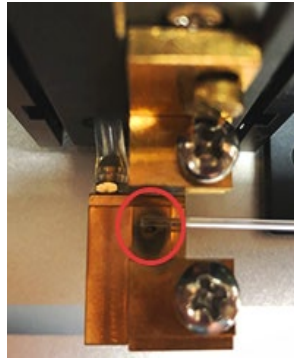

Figure 6-5
- 6) Clamp capillary glass in the right puller bar, and make left end of the glass in the middle between two brass jaws, as shown in Figure 6-5.